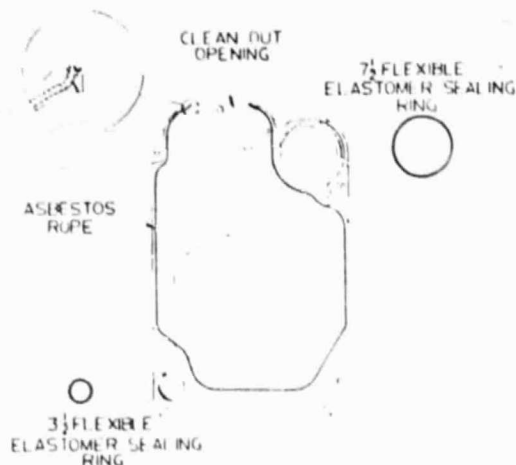

FIGURE 2
3. Position the 3/8" by 98" long asbestos rope on the section by starting at the cleanout opening (See Figure 2). Be sure the asbestos rope is well seated at all points in the sealing grooves so that a gas-tight seal will be maintained between the sections. **DO NOT APPLY** adhesive to the opposing sealing grooves of the next boiler section.
4. Wipe the port openings with a clean rag to remove any grit from the machined surfaces. Do not use any cleaner that contains a petroleum base distillate (oil) to clean ports. Place the nominal 7-1/2" and nominal 3-1/2" elastomer sealing rings in the appropriate port openings (see Figure 2).